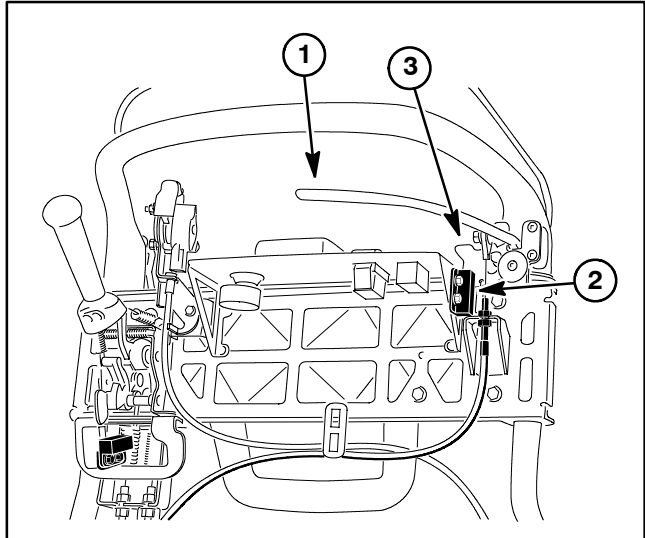

Figure 9
4. With the parking brake latch applied, there should be from 0.030" to 0.090" (0.8 to 2.3 mm) clearance between the parking brake latch and the parking brake latch switch (Fig. 9).